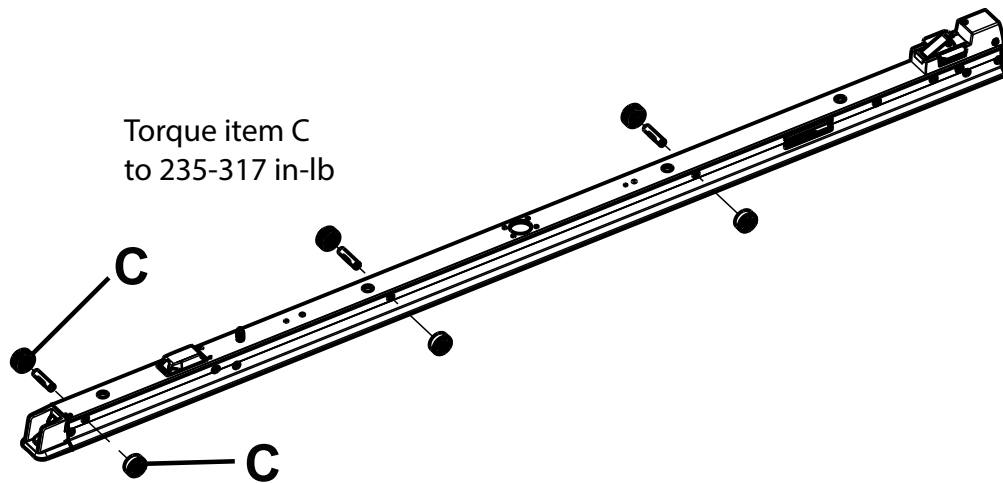

Figure 48 – Remove the flat roller assembly and V-guide roller assembly
7. Using a 1/4" hex wrench, remove the two screws (C) that secure the flat roller assembly and the V-guide roller assembly on the foot end of the anchor assembly (Figure 48). Save the screws.